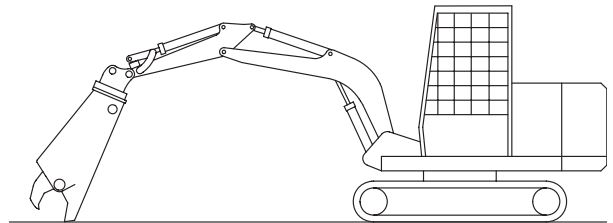

FIGURE 3-6
3. Fully retract the bucket cylinder after it is detached from the shear mounting bracket (figure 3-6).